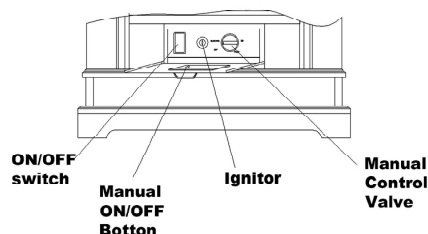

Figure 11 - Manual ON/OFF Button and ON/OFF Switch Location
2. Set the Switch on OFF location. (See fig 11)